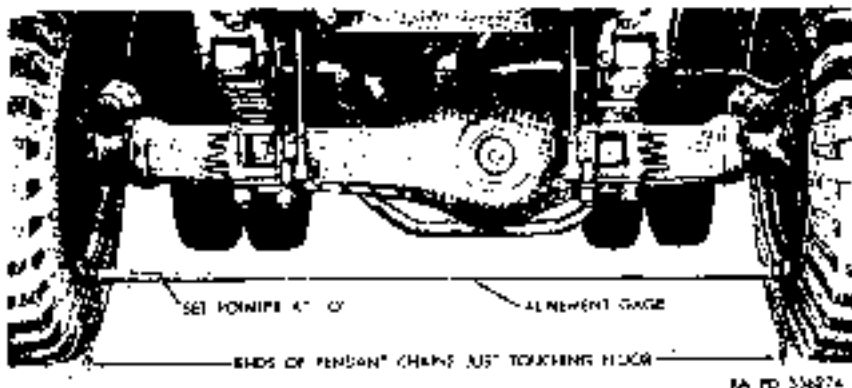

Figure 57.1 Toe-in test.
a. (Superseded) TOE-IN TEST (fig. 57.1). With the front wheels in a straight-forward position, move the vehicle at least 3 feet forward to get the tires in free rolling condition. Place the alignment gage between the tires forward of the axle with both pendant chains barely touching the floor. Set the gage so that the pointer registers zero. Move the vehicle forward until the gage is back of the axle with the pendant chains barely touching the floor and read the gage. The amount the scale has moved in relation to the pointer will indicate the amount of wheel toe-in or toe-out. Since toe-out is never desirable, the gage is calibrated in inches for toe-in only.